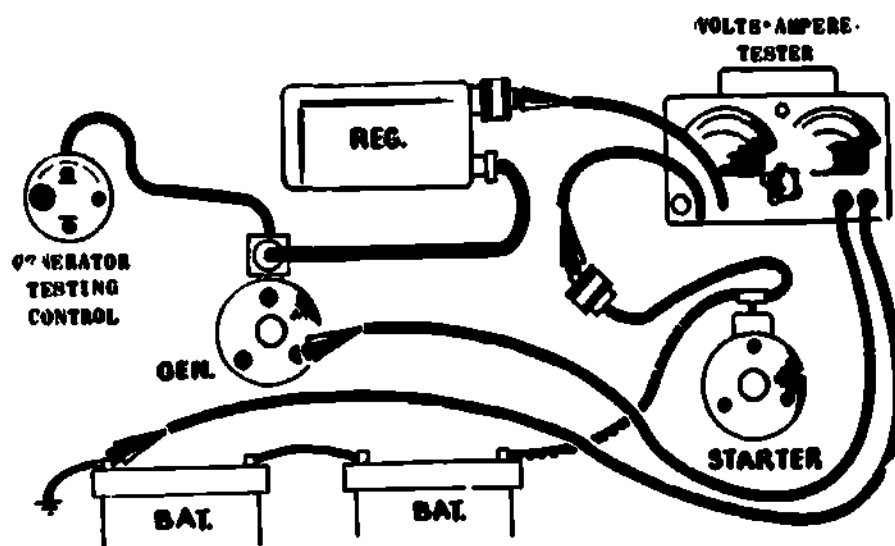

Fig 1-18. Ground circuit resistance test.
4. Ground circuit resistance test (fig 1-18). The insulated circuit may show satisfactory test readings, but a restriction in the ground circuit will keep the system from operating properly. Direct current (dc) must return to its source and the ground circuit to the path normally used for returning. The charging circuit and the regulator circuit can be tested by the following procedures.